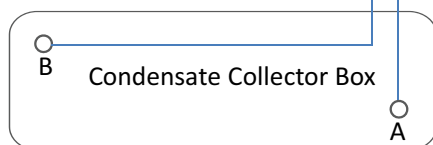

Figure 19
- In this installation, hoses connecting between ports of overflow protection pressure switch (overflow switch) and pressure tabs on the condensate collector box **MUST** be switched. The overflow switch has two ports, which is different from two other regular pressure switches that have only one port. Make sure that black port (positive) is connected to the lower position tap on condensate collector box and gray port (negative) to higher tap of condensate box. Connecting incorrectly will result in failure to protect condensate overflow. See Fig. 19.